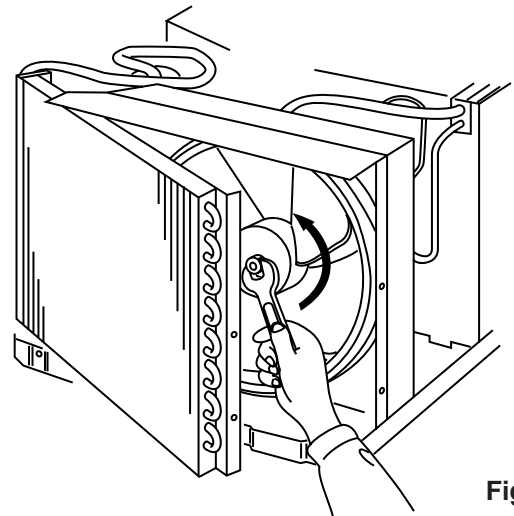

Fig. 15
- (2) Loosen a nut holding propeller fan on motor shaft using hex. wrench. (Fig. 15)